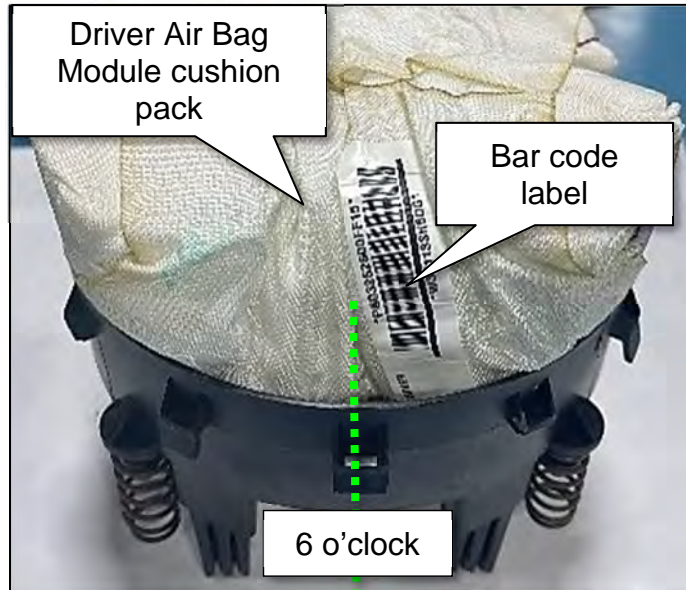

Figure 17
23. Place the Driver Air Bag Module assembly on a clean, flat, cloth covered surface, with the cushion pack facing up and the bar code label located at the 6 o'clock position, as shown in Figure 17.